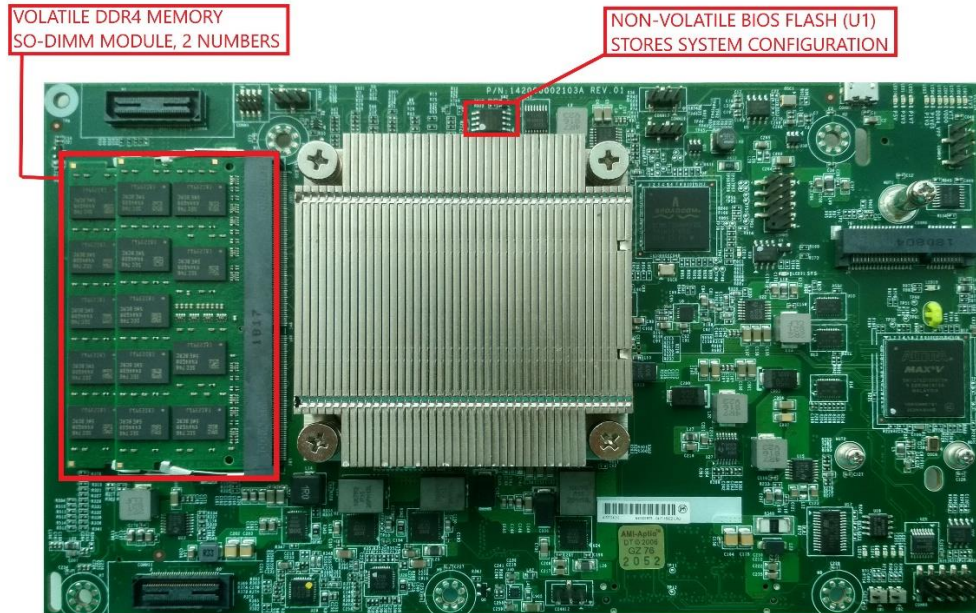

Figure 3-8: Locate NV and volatile storage (BIOS Flash and DDR)
8. Locate NV storage (figure 3-8 and 3-9).